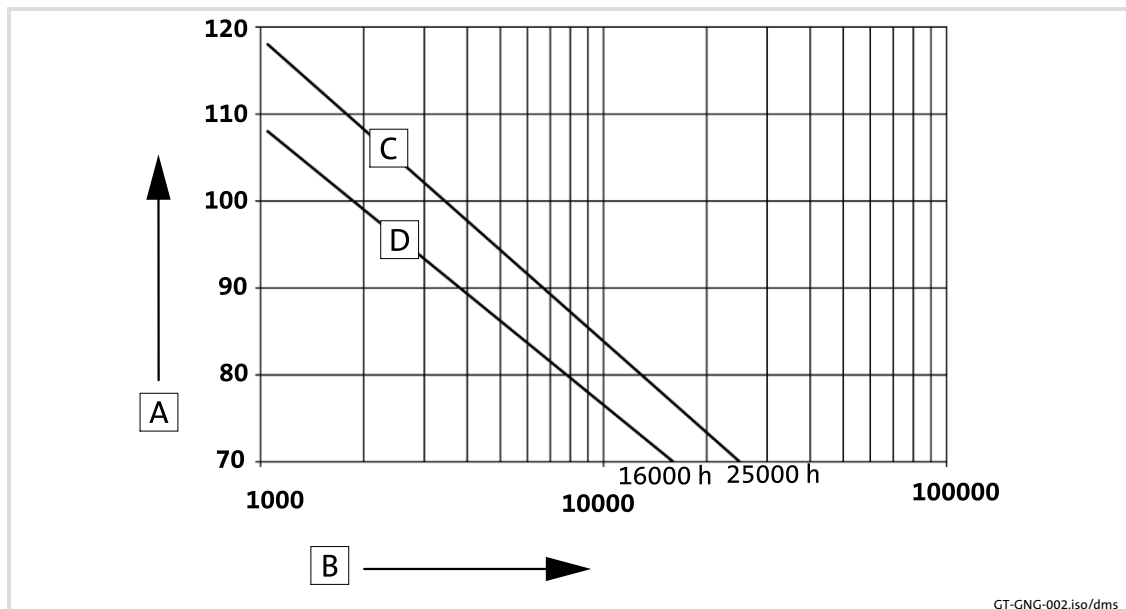

Fig. 14
- The lubricant maintenance interval depends on the oil temperature, see Fig. 14.